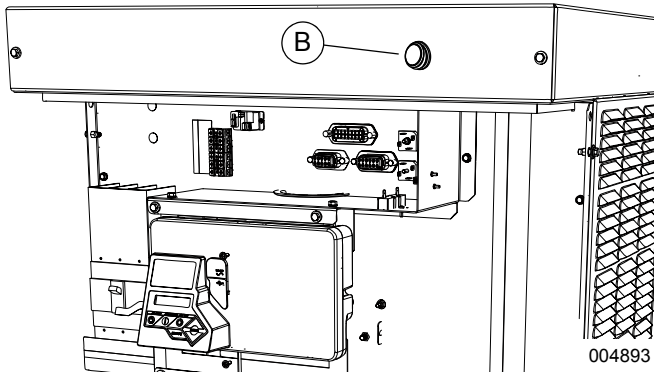

Figure 5 - Roof Panel Switch Installation
4. See **Figure 5**. Insert rocker switch (B) into hole and apply a small amount of silicone sealant around perimeter for added weather resistance.